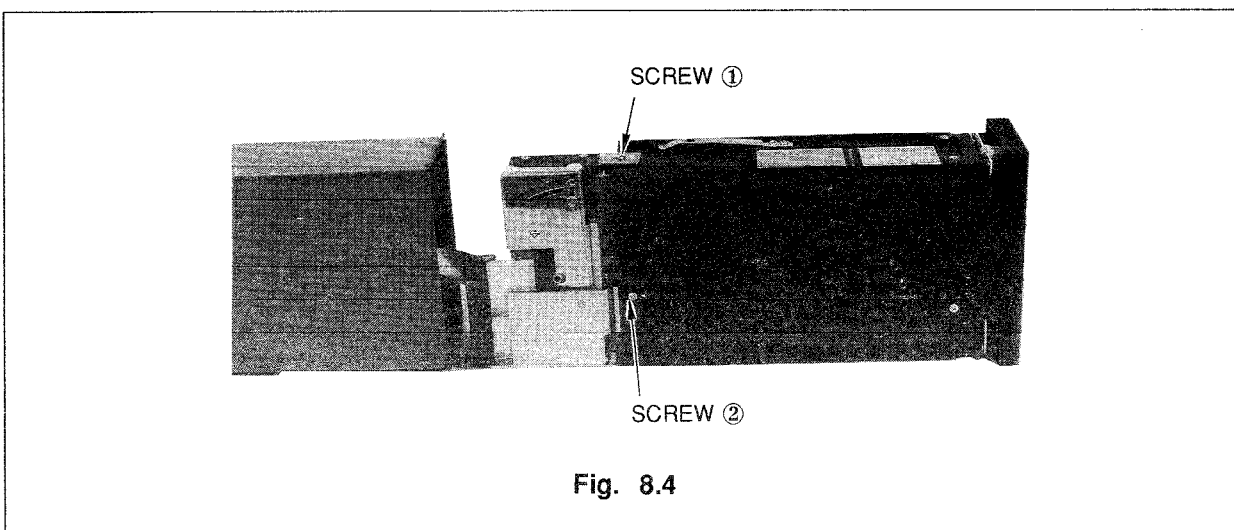

Fig. 8.4
- (1) Pull out the chassis from the casing. (See Subsection 8.3.1.)
- (2) Detach the standby manual unit from the chassis. (See Subsection 8.3.5.)
- (3) Remove the cover of the right hand side of the chassis. (See Subsection 8.3.2.)
- (4) Remove the bracket by removing screw ①, and then remove screw ②. (See Fig. 8.4.)